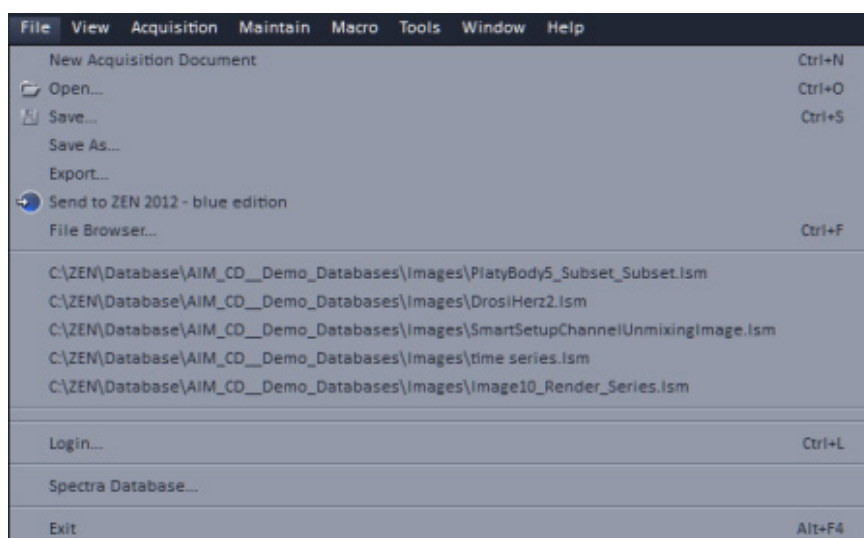

Fig. 21 File menu
- This displays the menu shown in Fig. 21.